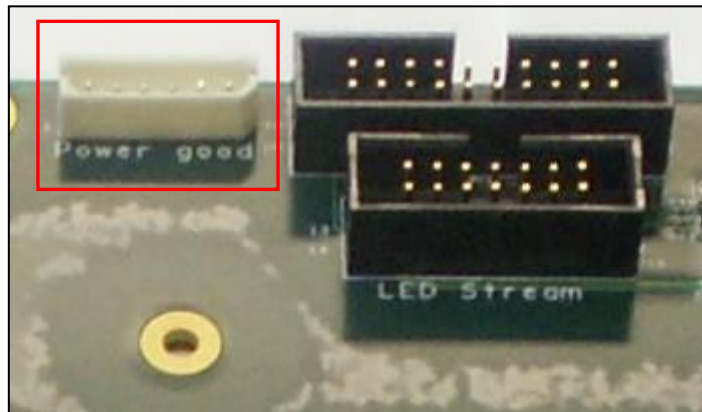

Figure 17: External Power Supplies
11. External Power Supplies Indication (see Figure 17)